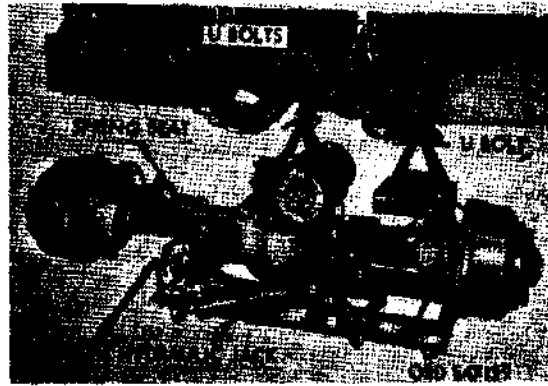

Figure 339. Removing front axle assembly
i. Remove Front Axle (Fig. 339). Lift the four U-bolts, two on each front spring, free of the spring seats, and lower hydraulic jack sufficiently to allow removal of axle from under truck. Pull jack with axle assembly forward and out from under front of truck. Remove spring seats from axle assembly.